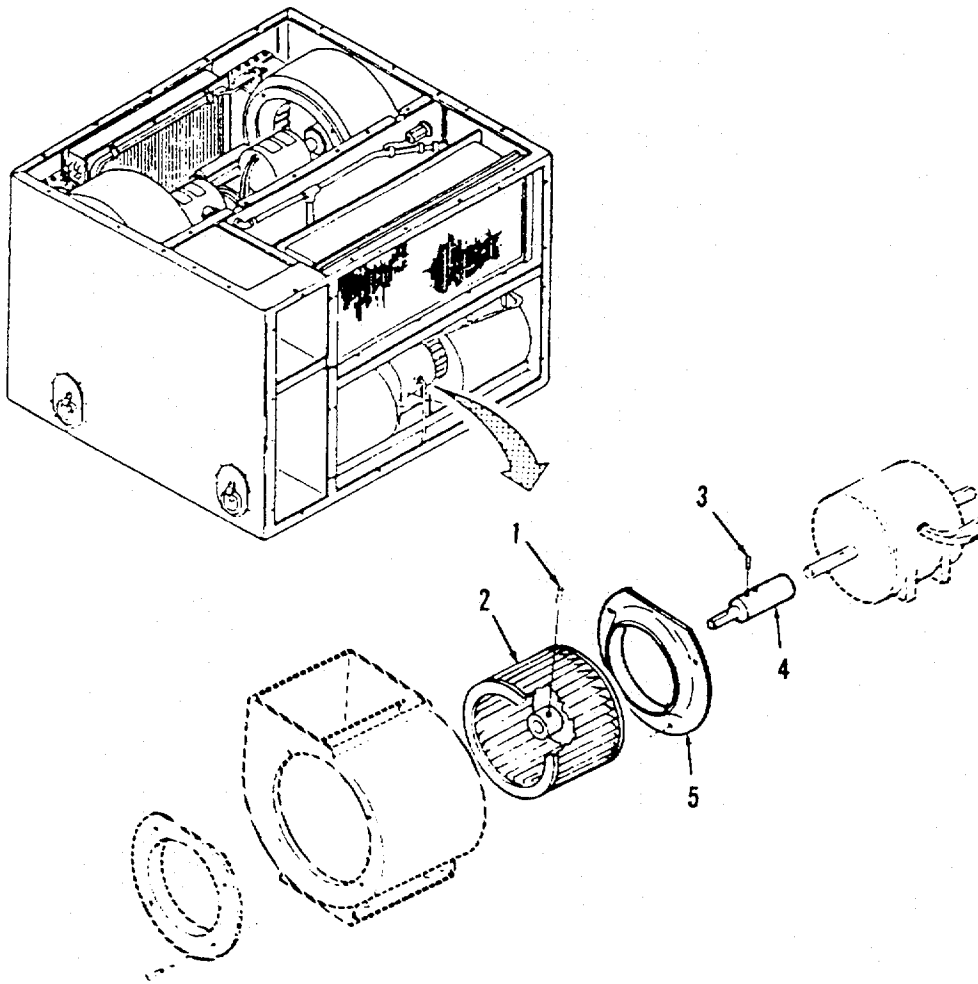

Figure 4-5. Evaporator Impeller Fans.
**a. Removal.** (Refer to Figure 4-5).
- (1) Loosen set screw (1) and impeller fan (2) from evaporator fan assembly.
- (2) Loosen two set screws (3) and remove extension shaft (4) from evaporator fan assembly.
- (3) Remove inlet ring (5).
- (4) Repeat for other impeller fan if other fan is being replaced.